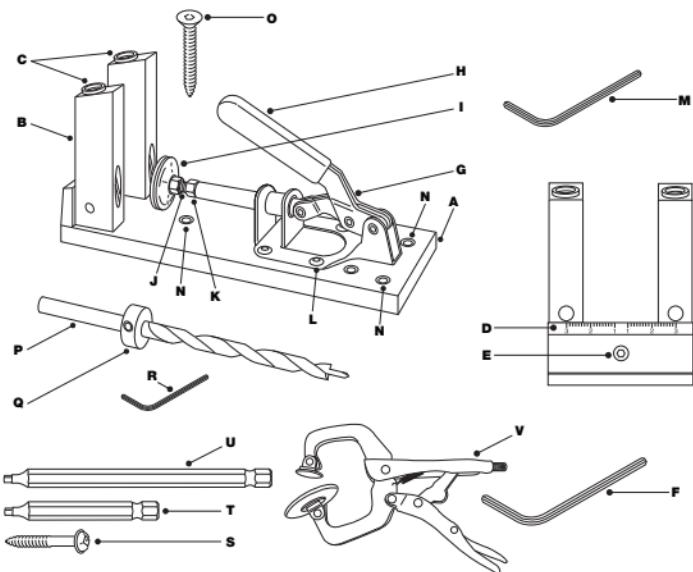

Fig. 1
- Setting up the jig for bench use - (**Fig. 1**)